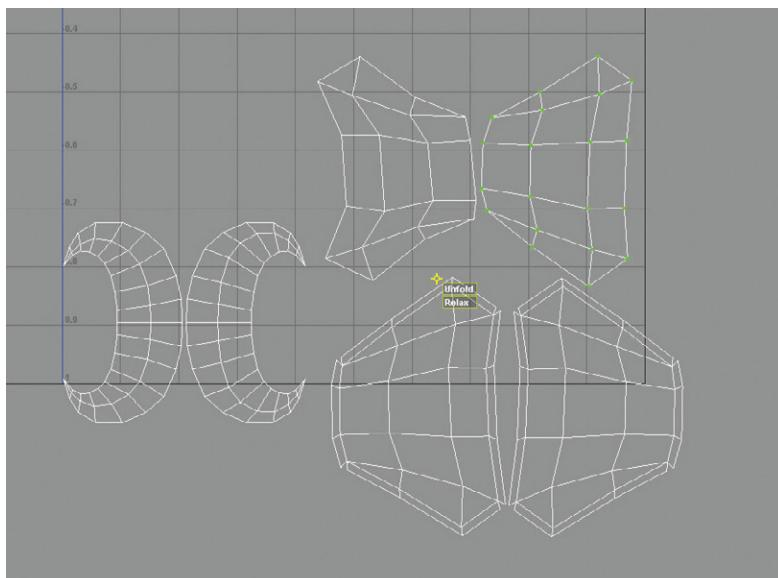

FIG 5.43 Assembled and unfolded armor shells.
Step 21: Assemble and unfold. Use the Move and Sew UV Edges to reassemble the armor parts. Remember not to sew the edges of the armor back onto the body. When the pieces are all assembled again, use the Unfold function of the Smooth UVs Tool to unfold the shells (Fig. 5.43).